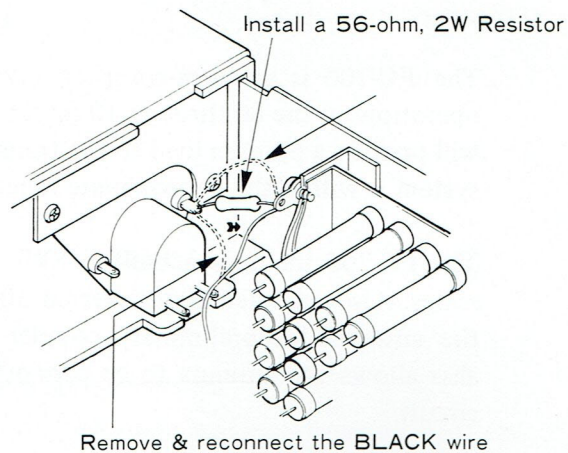

Figure 1
- (1) Referring to Figure 1, remove the two BLACK wires from the meter lamp terminal, and connect the one from the DC8V jack to the solder lug near the meter (the other is not used).
- (2) Install a 56-ohm, 2-watt resistor between the meter lamp terminal and the solder lug with the BLACK wire.